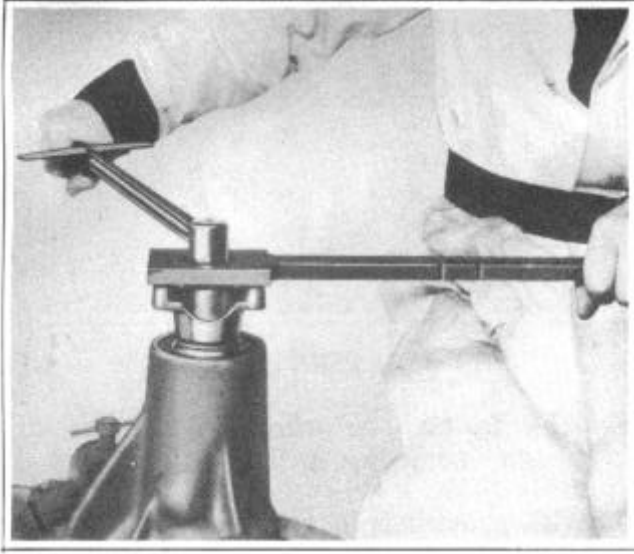

FIGURE 43
14. Remove nut from drive pinion, holding companion flange with I-2637, Companion Flange Holding Tool, Figure 43.